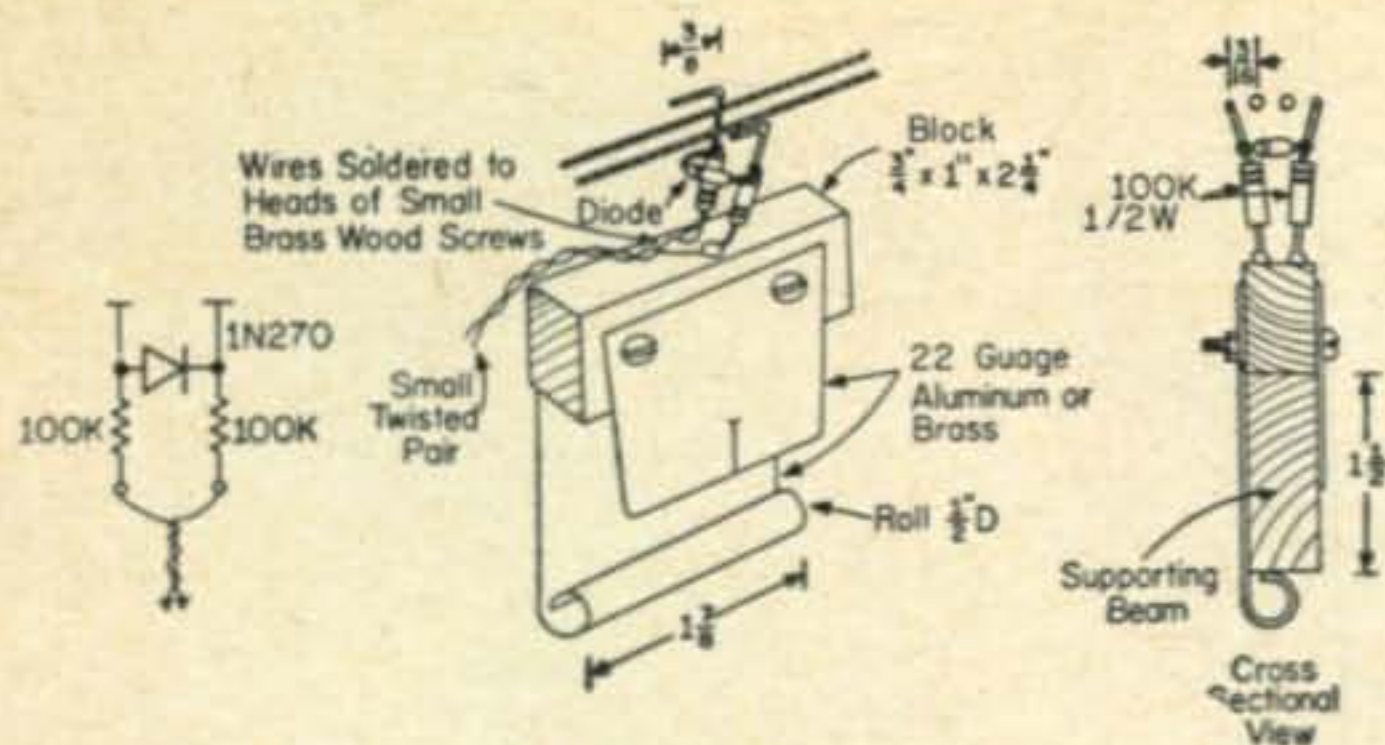

Fig. 2—Construction details of the sliding detector. The spring portion of the rear brass plate should be shaped for a snug fit with the beam.
Fig. 2—Chassis layout for the 432 mc preamplifier. Material used should be $1/32$ " brass or copper. Hole (A) on the left flange is for grounding L_1 , and (B) on the right flange is for grounding R_3 .
Layout the chassis as shown in fig. 2. Punch, fold and solder the seams closed. Mount the input and output jacks and fasten C_2 and C_3 to the chassis. Solder in R_1 , R_2 , R_3 and C_1 , keeping all the leads short. Position all the parts as shown in the photographs. Now solder in C_4 the output tuning capacitor.